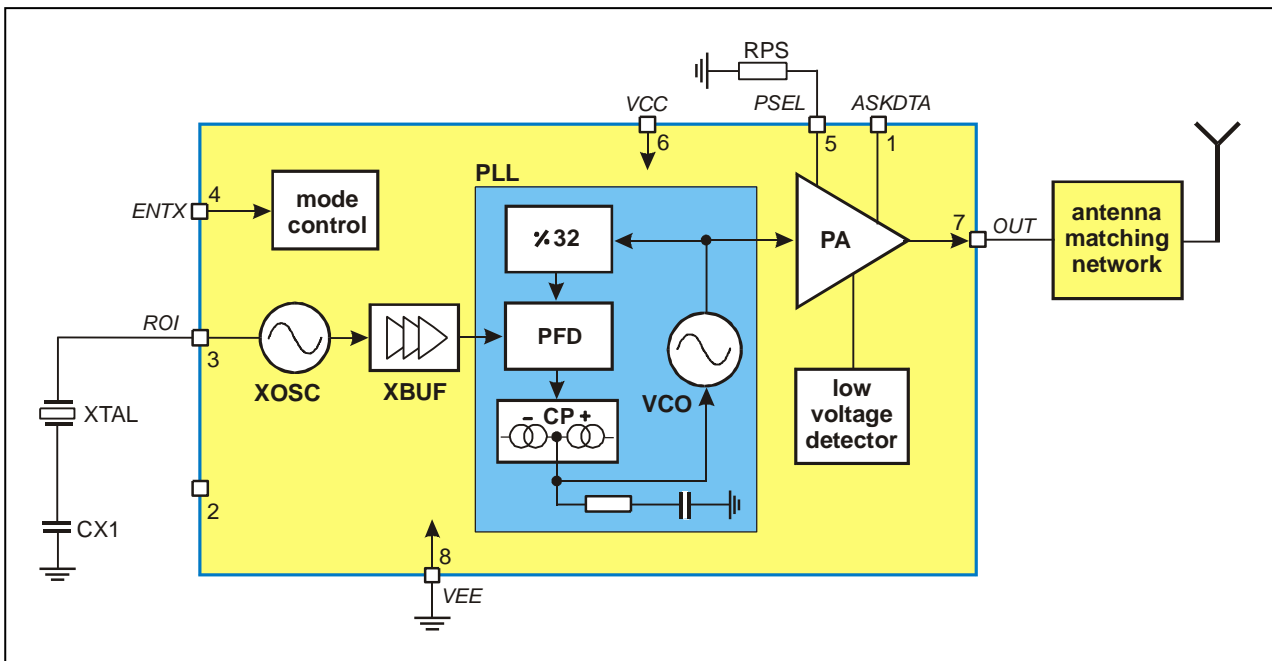

Fig. 1: Block diagram with external components
As depicted in Fig.1, the TH72012 transmitter consists of a fully integrated voltage-controlled oscillator (VCO), a divide-by-32 divider (div32), a phase-frequency detector (PFD) and a charge pump (CP). An internal loop filter determines the dynamic behavior of the PLL and suppresses reference spurious signals. A Colpitts crystal oscillator (XOSC) is used as the reference oscillator of a phase-locked loop (PLL) synthesizer. The VCO's output signal feeds the power amplifier (PA). The RF signal power P_{out} can be adjusted in four steps from $P_{out} = -12$ dBm to +10 dBm, either by changing the value of resistor RPS or by varying the voltage V_{PS} at pin PSEL. The open-collector output (OUT) can be used either to directly drive a loop antenna or to be matched to a 50ohm load. Bandgap biasing ensures stable operation of the IC at a power supply range of 1.95 V to 5.5 V.